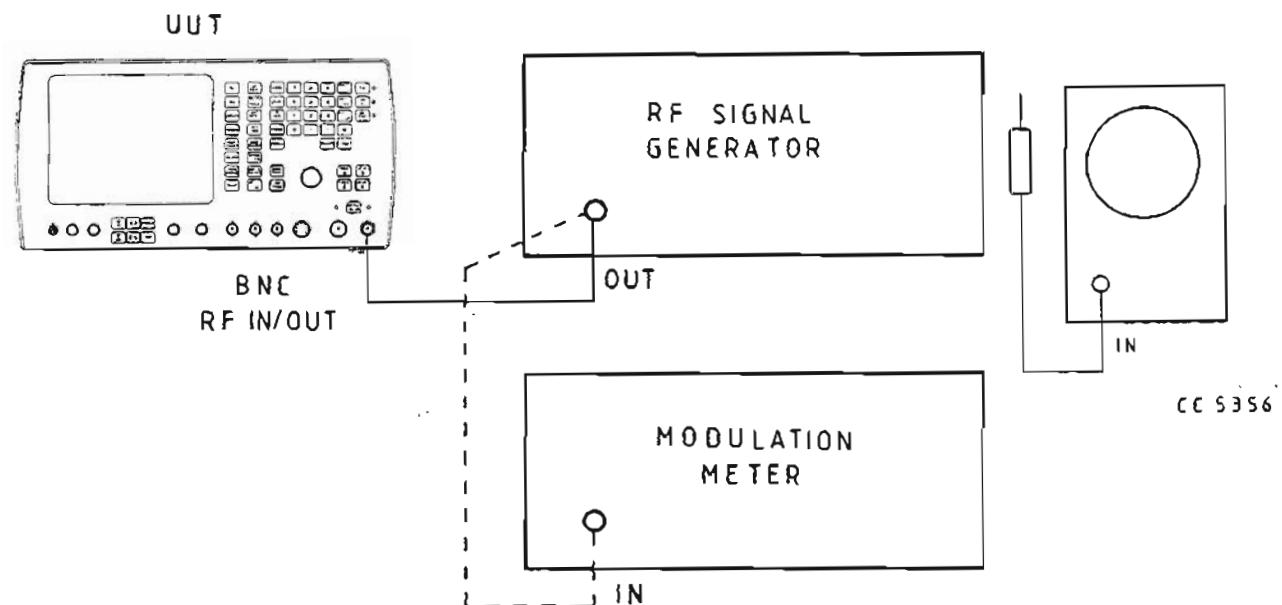

Fig. 7 Test equipment connections for adjusting R138,R172,R168,R129 on AB5
- (1) Connect the signal generator to the u.u.t. as shown in Fig. 7.
- (2) Set the signal generator to carrier frequency 100 MHz, modulation off, r.f. level 0 dBm.
- (3) Set the u.u.t. to TX, monitoring a.m., 0.3 - 3.4 kHz band-pass filter, b.n.c. input.
- (4) Set R172 to mid-position. Monitor TPI via the probe on the oscilloscope.
- (5) Reduce the signal generator output slowly until the trace on the oscilloscope starts to reduce. Now adjust R138 to peak the trace, i.e. maximum amplitude on TPI.
- (6) Increase the signal generator r.f. level to 0 dBm and adjust R172 for 1 V p-p on the oscilloscope. Remove the oscilloscope probe from TPI.
- (7) Set the signal generator to carrier 100 MHz, a.m. 50%, modulation 1 kHz, r.f. level 0 dBm.
- (8) Set the modulation meter to measure a.m., (p-p)/2 with the 0.3 - 3.4 kHz band-pass filter selected.
- (9) Connect the signal generator output to the modulation meter input and note the a.m. depth reading.
- (10) Connect the signal generator output to the u.u.t. b.n.c. input socket and adjust R168 to give the same a.m. reading on the 2955 as was displayed on the modulation meter.
- (1) Connect the signal generator to the modulation meter as shown in Fig. 7.
- (2) Set the signal generator to carrier frequency 100 MHz, f.m. deviation 5 kHz, modulation rate 1 kHz, r.f. level 0 dBm.
- (3) Set the modulation meter to measure f.m. with the 0.3 - 3.4 kHz band-pass filter selected.